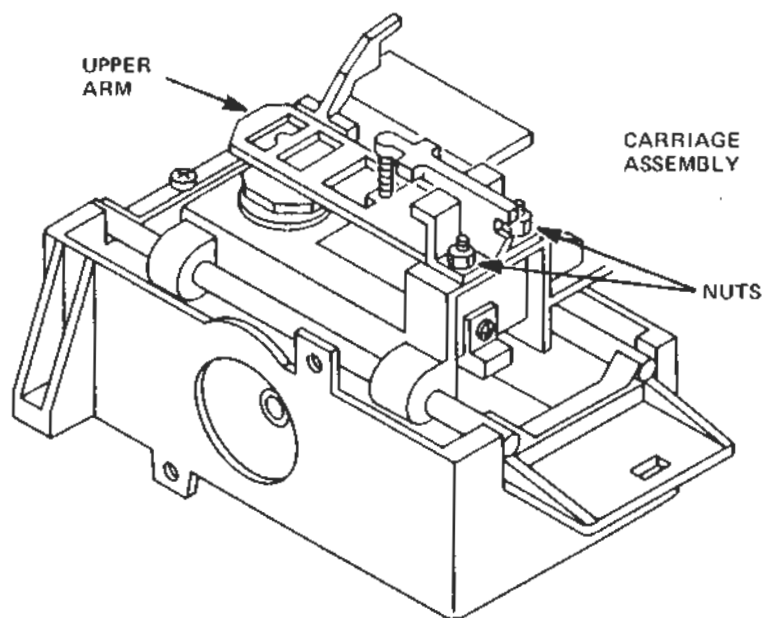

Figure 2-10
- 2.4.2.1 Turn the two (2) nuts that attach the upper arm to the carriage assembly (see Figure 2-10) counter-clockwise one-quarter ($1/4$) turn with a $3/16$ " nut driver.